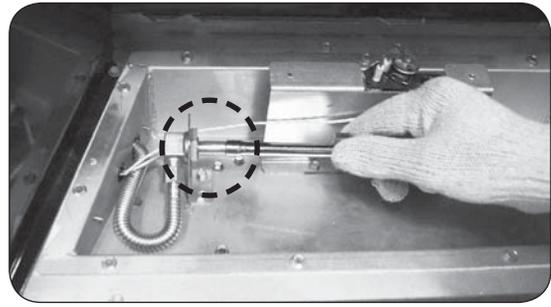

Fig. 4-1 Remove old & install new orifice
1. Remove the burner orifice using a  $\frac{3}{8}$ " nut driver (see Fig. 4-1).